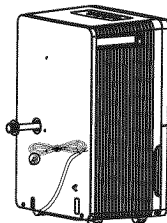

Figure 19
- Wrap the cord and bundle it with the band (Fig.19) .